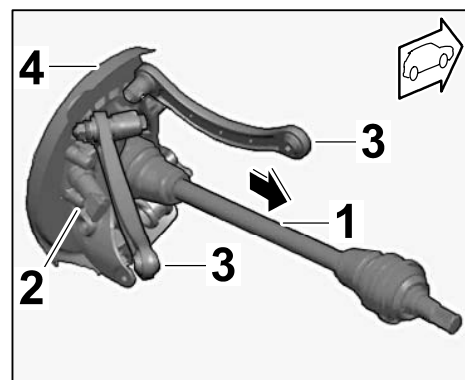

Figure 9 (shown as an example)
3.2.4 Remove rear-axle drive shaft (left/right) from the wheel bearing housing (wheel carrier, left/right) (⇒ *Figure 9 (shown as an example) -arrow-*, see also ⇒ *Workshop Manual '422119 Removing and installing rear drive shaft'*).